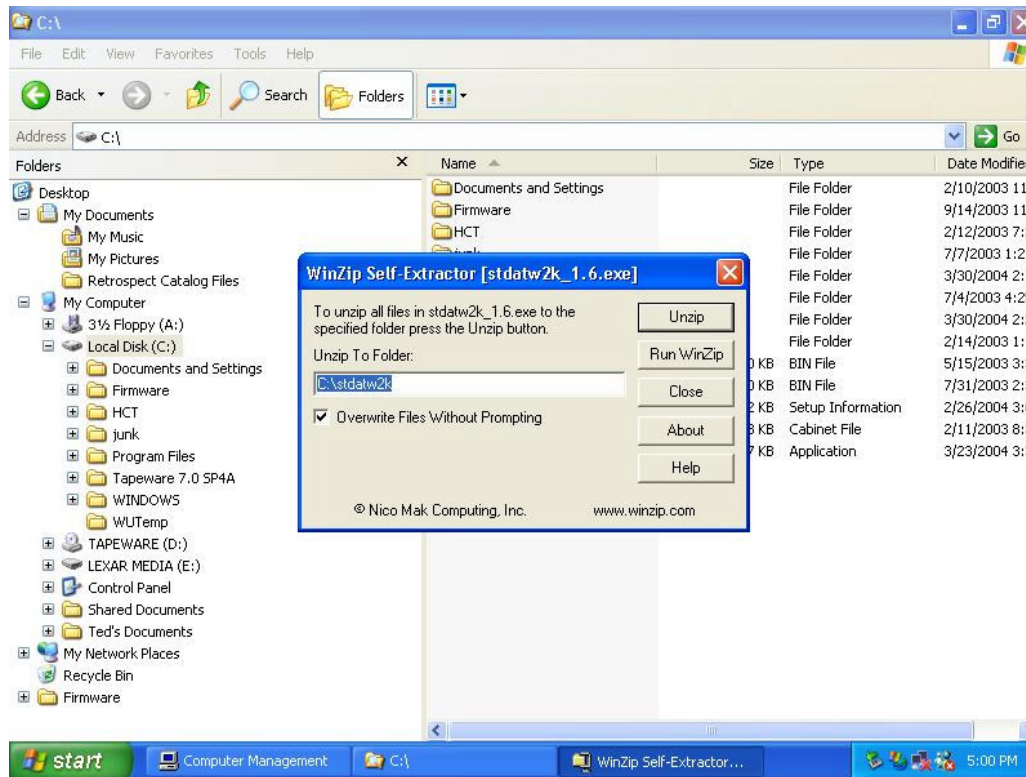

Figure 16. Unzipping the Compressed File
2. If you downloaded the file from the Web site, unzip the compressed file to a directory (see Figure 16 on page 33). Otherwise, insert the Resource CD in your computer's CD-ROM drive.